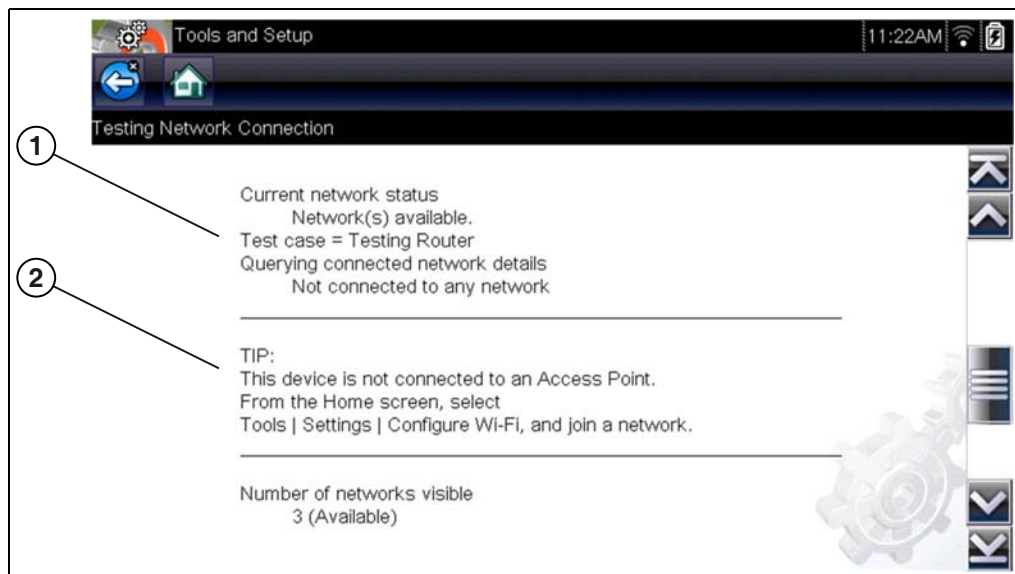

Figure 8-12 View Summary
4. If a connection issue(s) is present, select **View Summary** to review the results. The summary information is helpful if you are experiencing difficulties with your connection (Figure 8-12). Scroll through the summary information to review the test results for each system and Tip messages for the current connection issue. See *Connection Tests - Troubleshooting* chart in Wi-Fi Troubleshooting on page 73 for additional information.